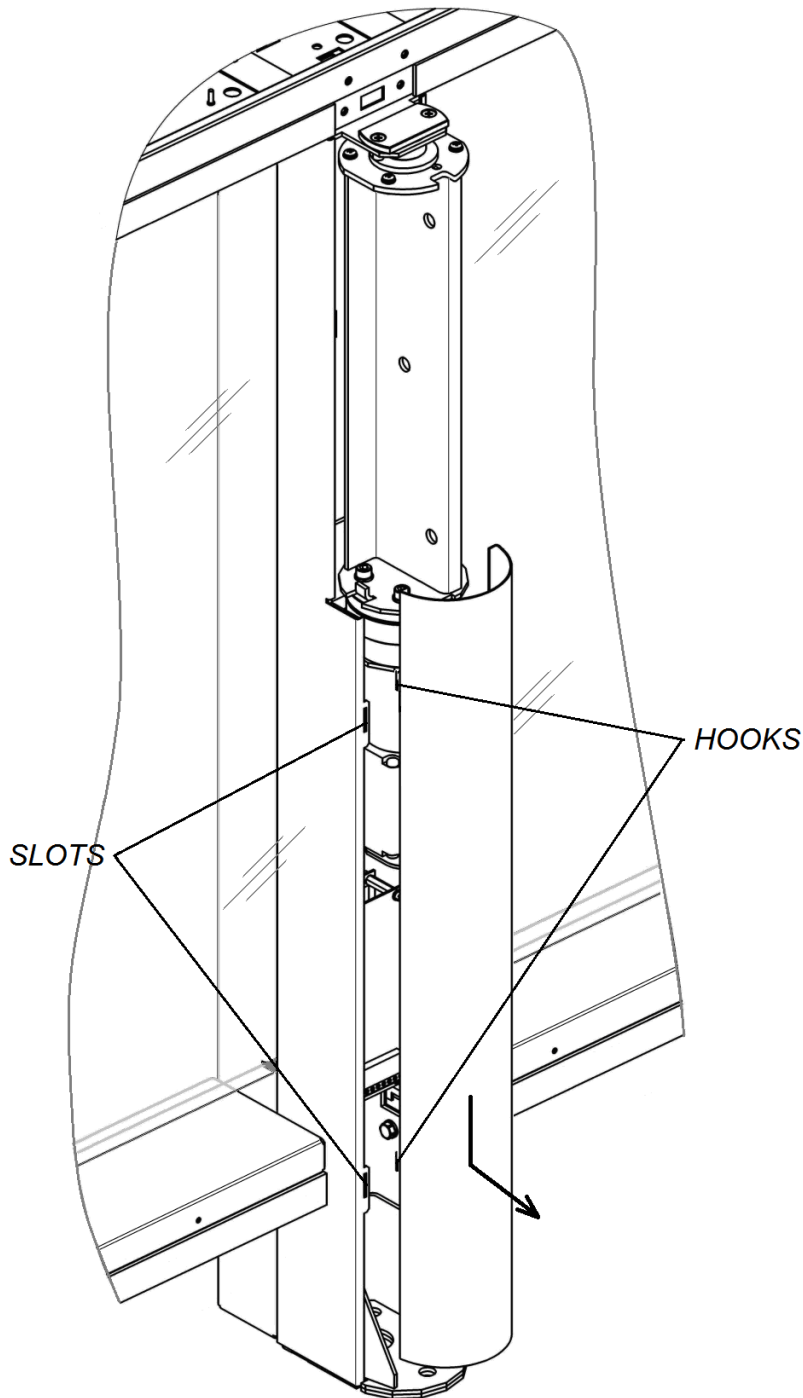

Figure 21. Central post cover plate disassembly
To remove the central post cover plate (5), pull the cover plate down along the post, take it aside from the post, bringing the hooks from slots in the central post (Fig. 21).